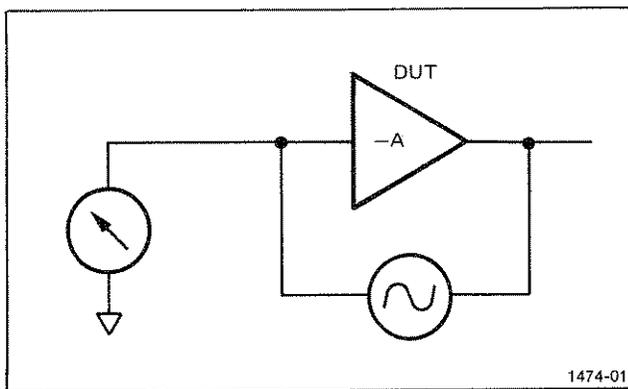
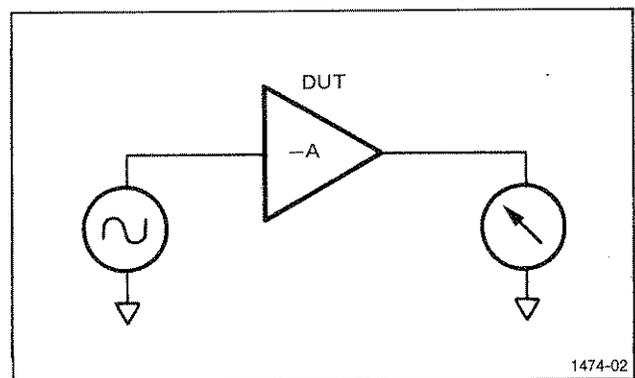

Fig. 2-1. Simplified closed-loop test of an inverting amplifier.
Fig. 2-2. Hypothetical open-loop test of an inverting amplifier.
Operational amplifiers make up the greatest single class of linear integrated circuits. In order to test amplifiers, the 178 Linear IC Test Fixture uses a closed-loop technique. This technique is a departure from standard curve tracer techniques where device parameters are obtained in open-loop configurations. The essential difference between the two test configurations is seen by comparing two simplified diagrams, Figs. 2-1 and 2-2. In theory, either configuration could be used to determine the device-under-test (dut) gain (A), where:
In the closed-loop test of Fig. 2-1, a test signal is applied between the dut input and output. Because of the dut gain, its input voltage changes little compared with its output voltage. The small signal at the input is measured while the generator, in effect, applies an easily controlled signal to the dut output. Conversely, in the open-loop test of Fig. 2-2, a small signal applied to the dut input produces a less-controllable signal that is measured at its output.